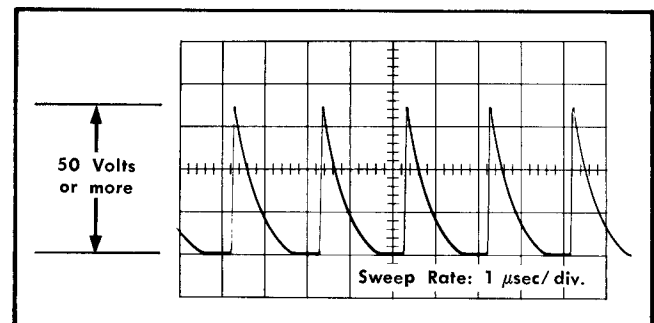

Fig. 6-4. Typical chopped-mode blanking pulse waveform as displayed on the test oscilloscope crt. Vertical deflection factor: 20 volts/div.
- Connect the probe from the test oscilloscope to pin 24 of the oscilloscope vertical-amplifier interconnecting socket. Check that the amplitude of the blanking pulse is 50 volts or more in amplitude (see Fig. 6-4). (If the amplitude is lower than 50 volts, V533 may need replacing.) Leave the probe connected while performing step 11e to check for at least 50 volts amplitude.